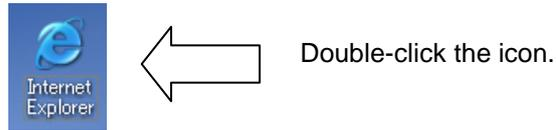

Fig. 36 Internet Explorer icon
2. Start Internet Explorer (Fig. 36).